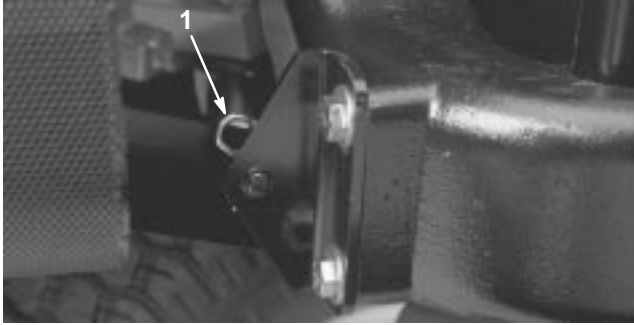

Figure 41
2. Remove the cotter pin securing the hood pivot to the mounting brackets (Fig. 41).